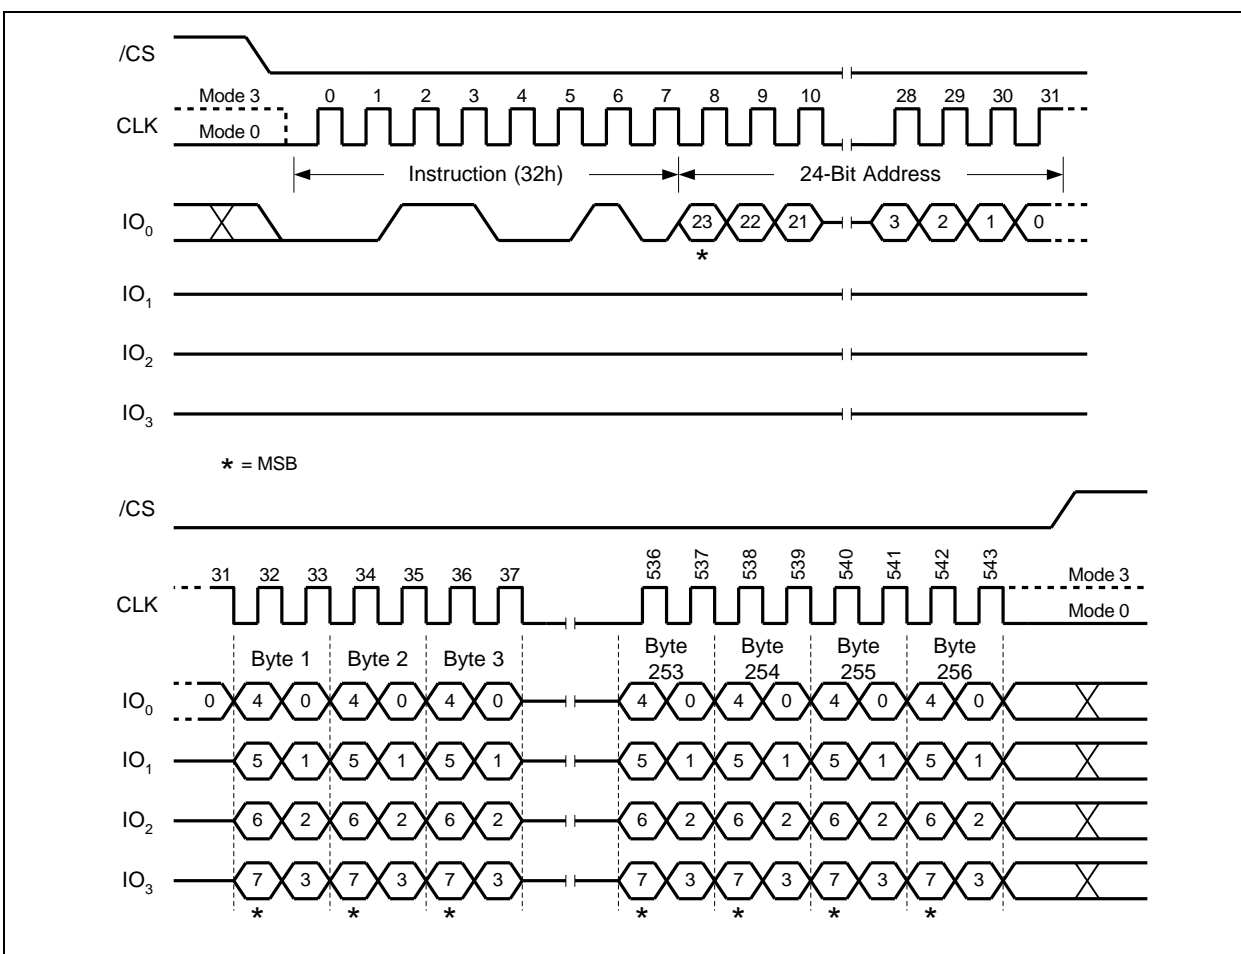

Figure 30. Quad Input Page Program Instruction
To use Quad Page Program the Quad Enable (QE) bit in Status Register-2 must be set to 1. A Write Enable instruction must be executed before the device will accept the Quad Page Program instruction (Status Register-1, WEL=1). The instruction is initiated by driving the /CS pin low then shifting the instruction code "32h" followed by a 24-bit address (A23-A0) and at least one data byte, into the IO pins. The /CS pin must be held low for the entire length of the instruction while data is being sent to the device. All other functions of Quad Page Program are identical to standard Page Program. The Quad Page Program instruction sequence is shown in Figure 30.